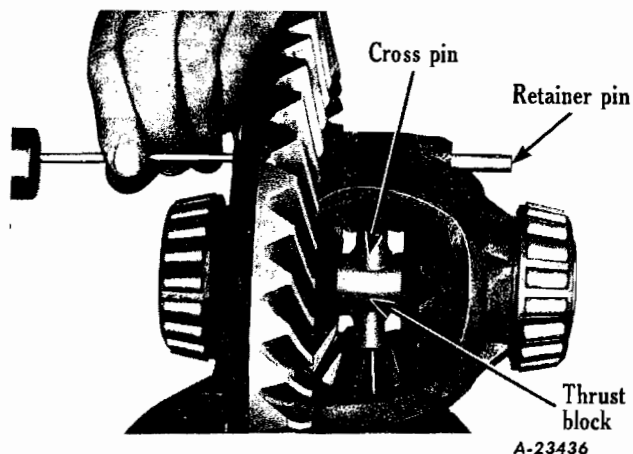

Fig. 23 - Driving retainer pin from differential case using a hammer and punch.
1. Drive cross pin retainer pin from differential case so as to clear the cross pin (Fig. 23).